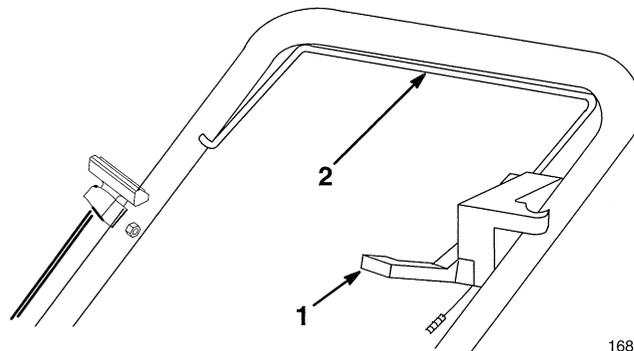

Figure 8
2. SELF-PROPELLED MODELS ONLY—Move traction control lever forward (toward engine) (Fig. 8).
- Move traction control lever forward (toward engine) and squeeze control bar until it contacts handle (Fig. 8).